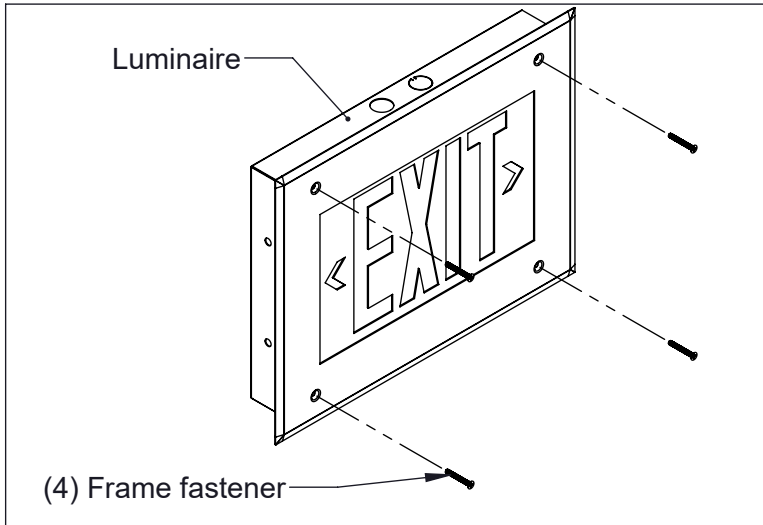
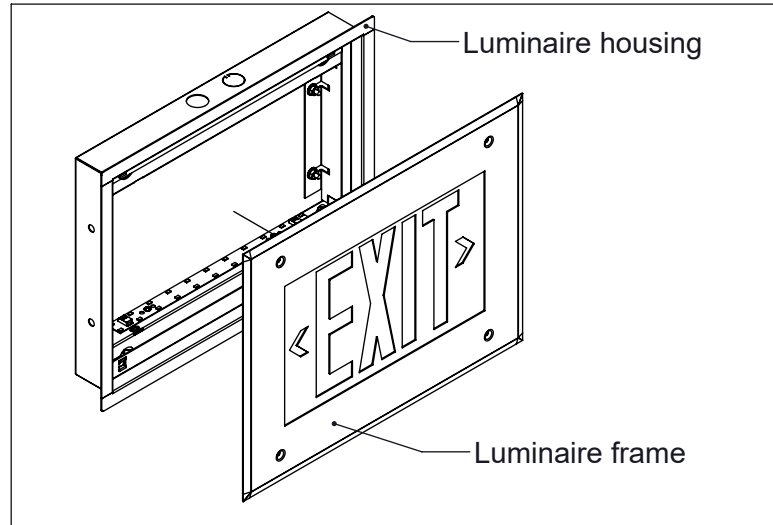

Figure 1
Figure 2
1. Remove luminaire frame fasteners (Fig. 1), then remove frame (Fig. 2).